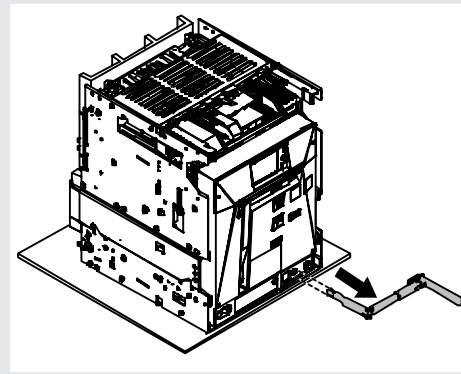

Figure 79
11. Extract the crank. See Figure 79.